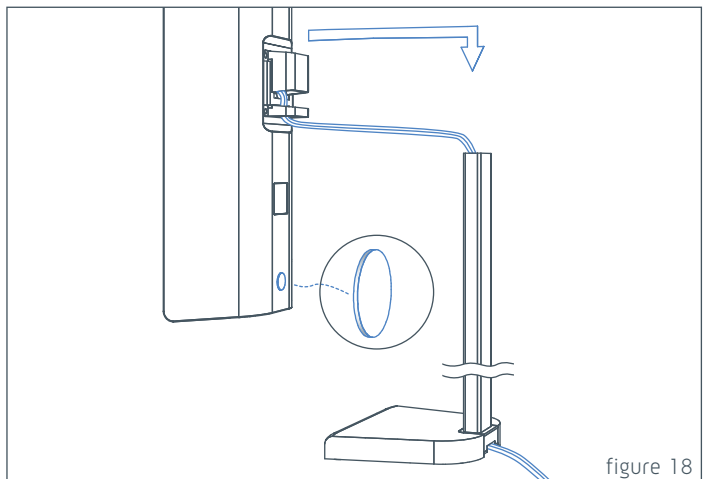

figure 18
- Self-adhesive silicon pads are supplied with each Tryptix. Put at least one pad on the back at the bottom of the Tryptix to protect and isolate speaker from the post. (figure 18)
- Whilst feeding the excess cable back through the stand, carefully align and hook speaker bracket onto post. (figure 18)